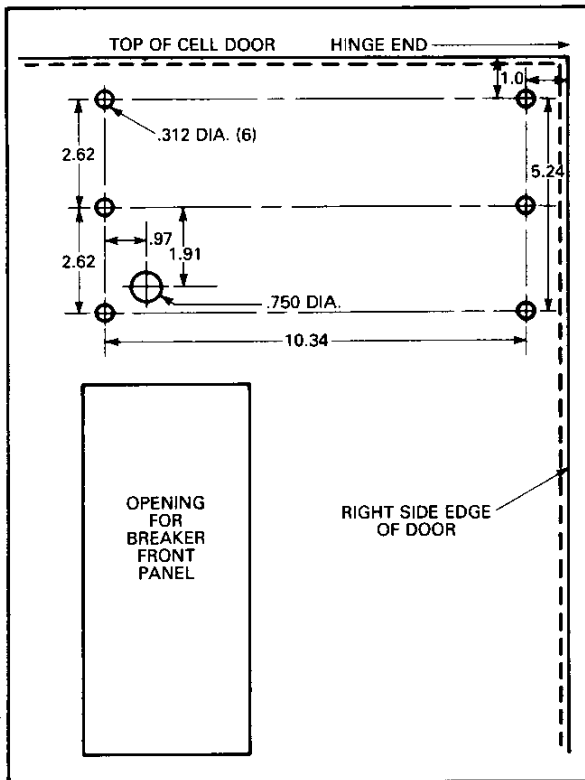
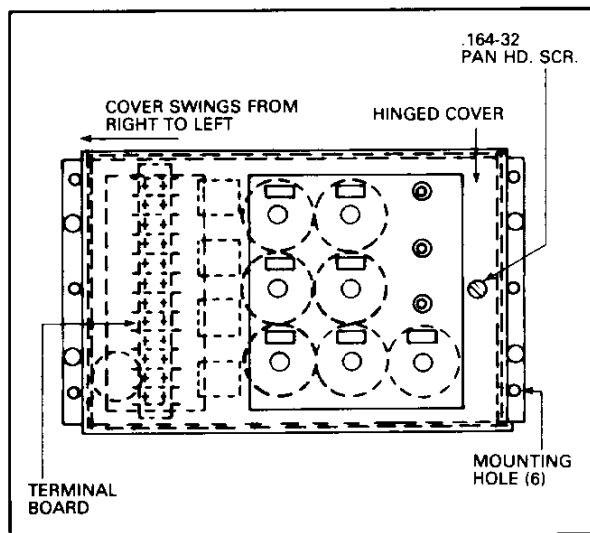

Fig. 7 Amptector Mounting Details Horizontal Mount
Fig. 8 Amptector in Horizontal Position
- Acquaint yourself with the location of the mounting holes and placement of the amptector, Figs. 7 and 8.
- Facing the front of the door scribe a horizontal line one (1") inch from the top of the door and parallel to the edge of the door. Scribe a vertical line one (1") inch from the top right side of the door and parallel to the edge. The intersection of these two lines locates the hole for the amptector at the top right side of the door, Fig. 7.
- From the top horizontal line measure a distance of 5.24 inches down and scribe a parallel line, Fig. 7 and from the vertical line measure a distance of 10.34 inches and scribe a line parallel to the vertical line. This now locates the four (4) outer hole location. Now locate the center line, and the two inner holes, Fig. 7.
- Using the center line and the left vertical line locate the center of the grommet hole, Fig. 7.
- Centerpunch all locations, drill six (6) .312 diameter holes and one (1) .750 diameter hole.
- Place the grommet into the .750 diameter hole. Mount the amptector on the door using .25-20 x 1.0 pan head screw, washer, lockwasher and nut. Finger tighten the nuts on the screws, Fig. 8.